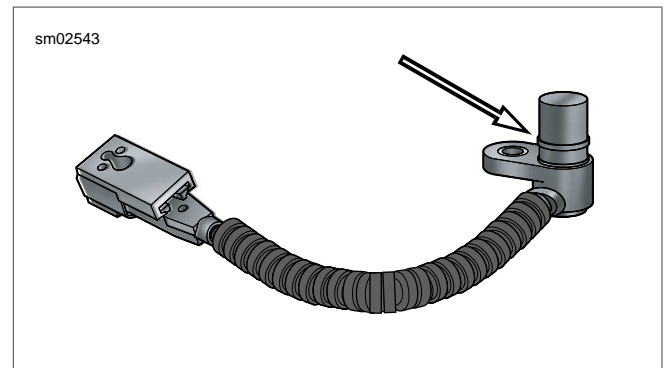

Figure 7-42. CKP Sensor O-Ring
1. See Figure 7-42. Lubricate CKP sensor O-ring (1) with clean engine oil.